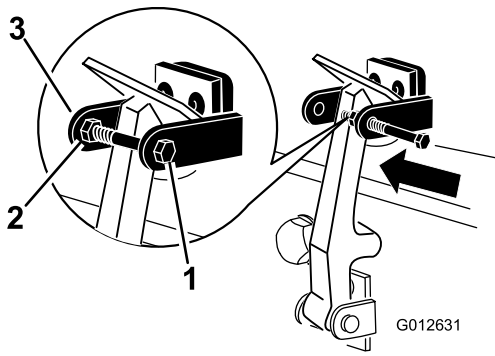

Figure 6
7. Screw the bolt into the other arm of hood lock bracket to lock the latch in position (Figure 6). Tighten the bolt but do not tighten the nut.